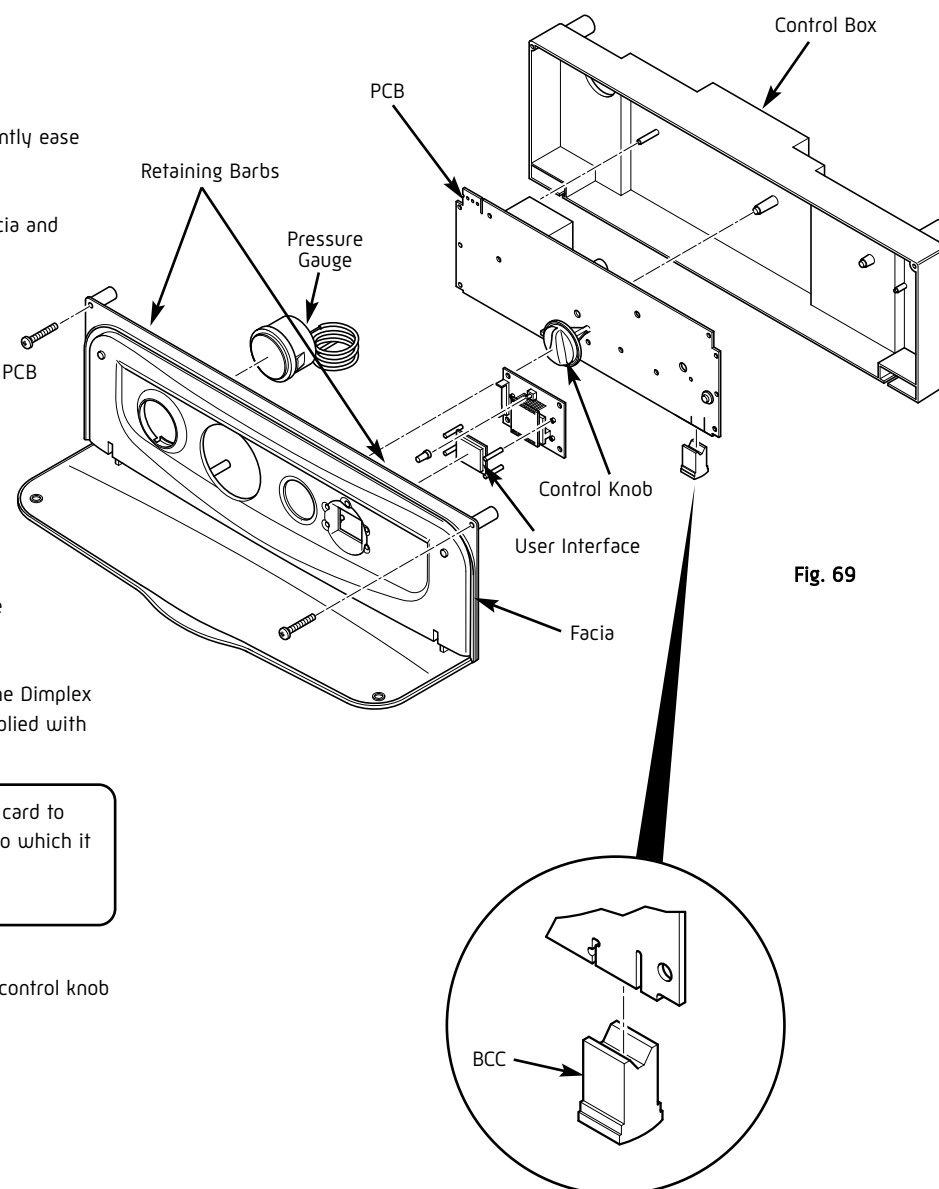

Fig. 69
2. Undo the screws holding the control box and gently ease the box forward (Fig. 69).
(DO NOT REMOVE THE YELLOW BCC (Fig. 69))
2. Dismantle the control box as described above to gain access to the PCB (Fig. 69).